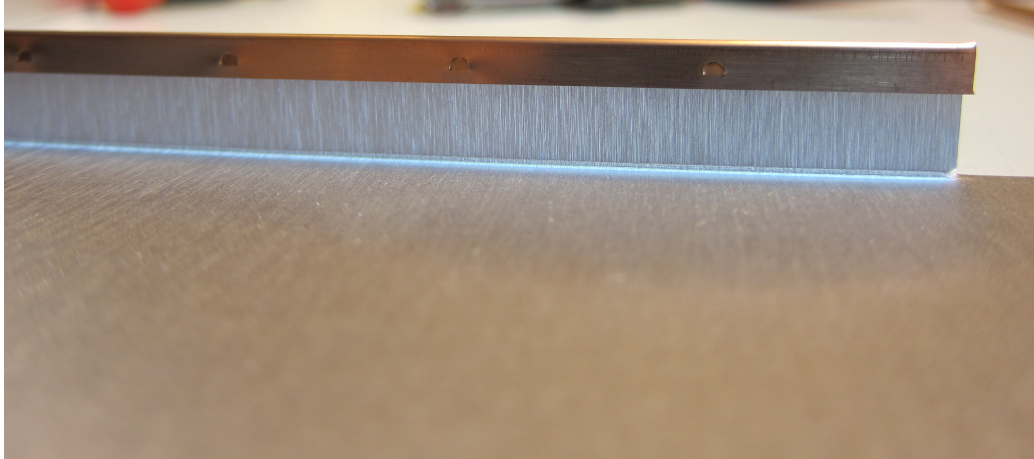

Figure 49: Trimmed gasket installed on the cover.
2. Install the RF gasket on the chassis cover, see Fig. 49.